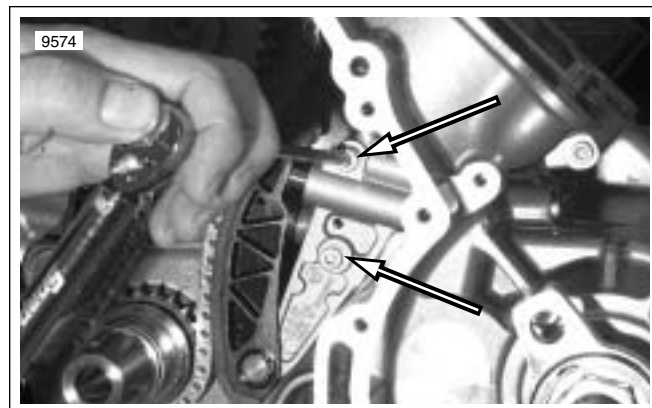

Figure 3-246. Primary Chain Hydraulic Tensioner
8. See Figure 3-246. Install primary chain hydraulic tensioner fastener. Tighten to 9.7 Nm (86 in-lbs).